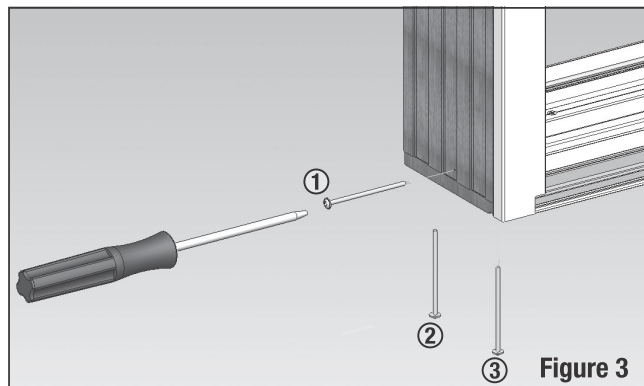

Figure 3
- 3 Use the #8 - 3" washer head screws to attach the side casings to the head and bottom rail (4 screws at the head and 3 at the bottom rail). Use the pre-drilled holes for this, in the proper sequence. Always screw in the vertical side casings first. See **Figure 3**.